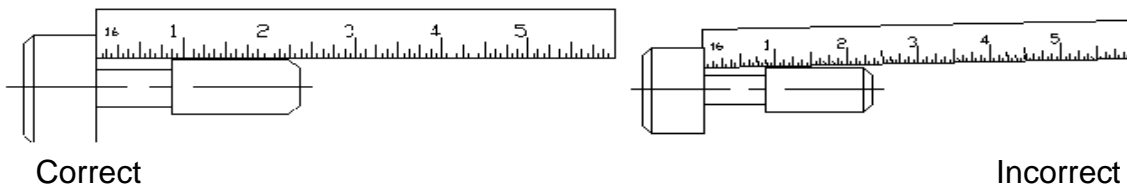

Figure 4.
- ✓ When measuring a length, the rule must be kept in a straight line parallel to the centerline of the work. If it is tilted, the measurement will be longer than the actual part. See Figure 4.